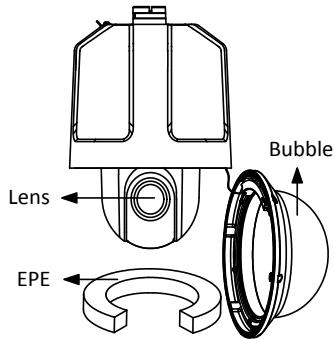

Figure 2-3 Remove the Bubble
- 2) Pull the bubble carefully to separate it from the back box, and remove the protective material EPE as shown in Figure 2-3.